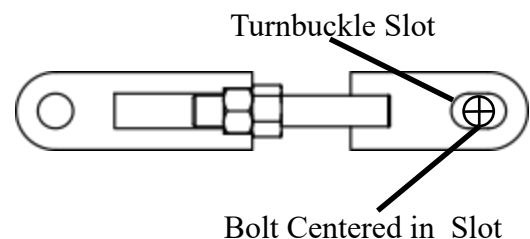

Fig. 7
- Drive the ATV forward approximately 10 feet, stop and check the location of the rear bolt in the turnbuckle slot, Fig. 7. If not bolt is not centered, adjust the turnbuckle until it is. Repeat for the other side.